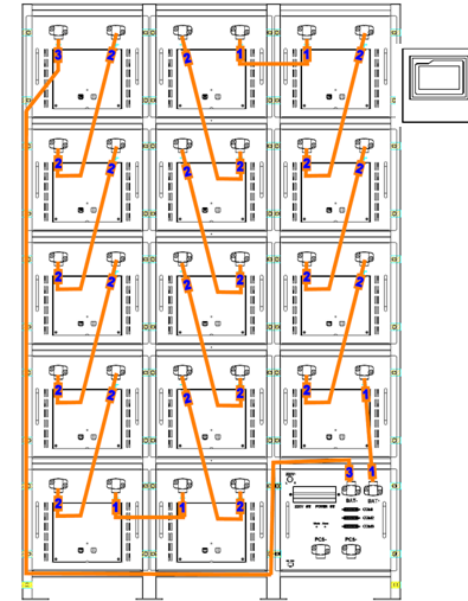

Figure 6-4 Battery cluster DC cable wiring diagram (picture is for reference only)
2). According to the wiring position of Figure 6-4, connect the No. 2 series DC cable to each cluster first, then connect the No. 1 serial DC cable, then connect the No. 4 serial DC cable, and finally connect the No. 3 cable.